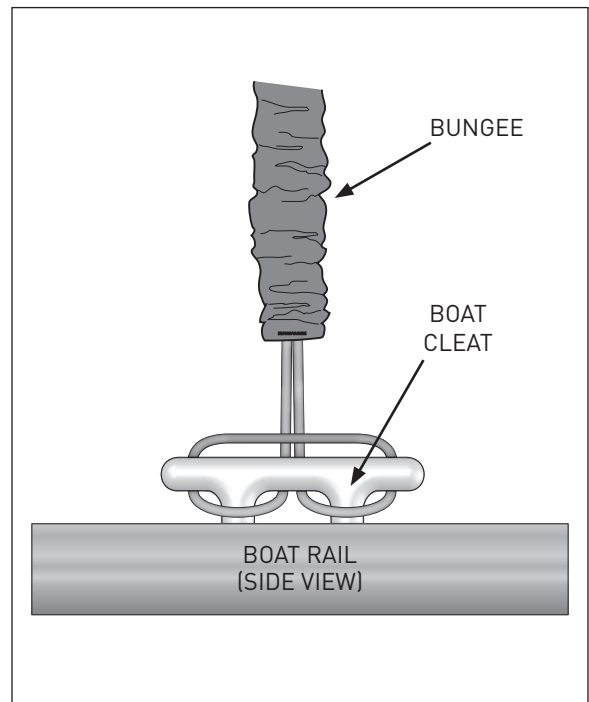

Figure 6
With the boat pulled up to the dock or pier, position the boat so that the boat cleats are adjacent to the Pier Tenders at the bow and stern of the boat. With the arm assembly in the vertical position, depress the button on the cam buckle to release the strap and bungee assembly. Attach the loop end of the strap to the boat cleat (**Figure 6**).
**NEVER** affix the loop of the bungee to a boat cleat by any other method than what is depicted in **Figure 6**.